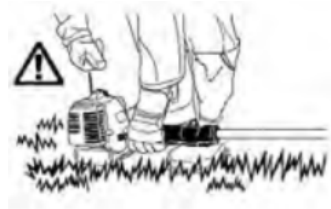

Fig.15
- 4) Slowly pull the starter handle until it starts. (fig.15)